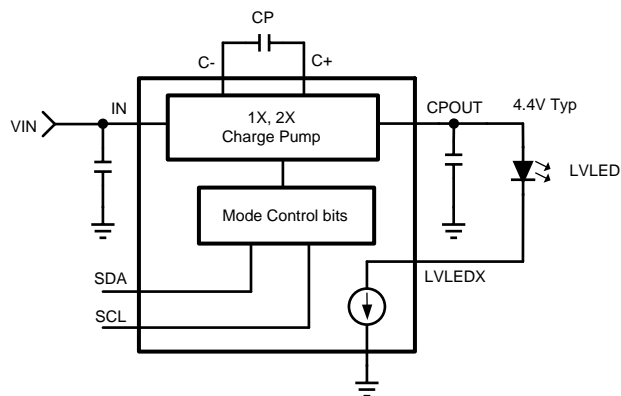

Figure 41. Integrated Charge Pump
The LM3533 features an integrated (2x/1x) charge pump capable of supplying up to 150mA. The fixed 1MHz switching frequency allows for use of tiny 1μF ceramic flying capacitors (CP) and output capacitor (CPOUT). The charge pump can supply the power for the low-voltage LEDs connected to LVLED1-LVLED5 and can operate in 4 different modes: disabled, automatic gain, 1X gain, or 2X gain (see Figure 41).